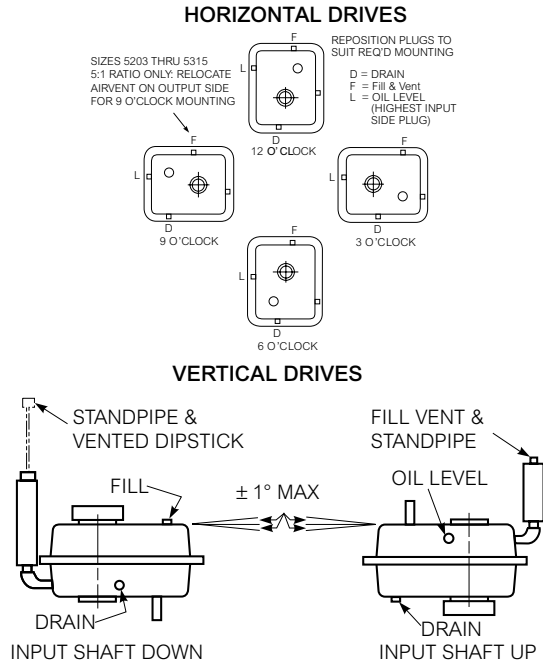

Figure 4
10. **JR, JF, & JSC** — Find the desired mounting position in Figure 4 and install air vent and magnetic drain plug (packaged separately with basic drive). Locate and/or mark the oil level plug location.